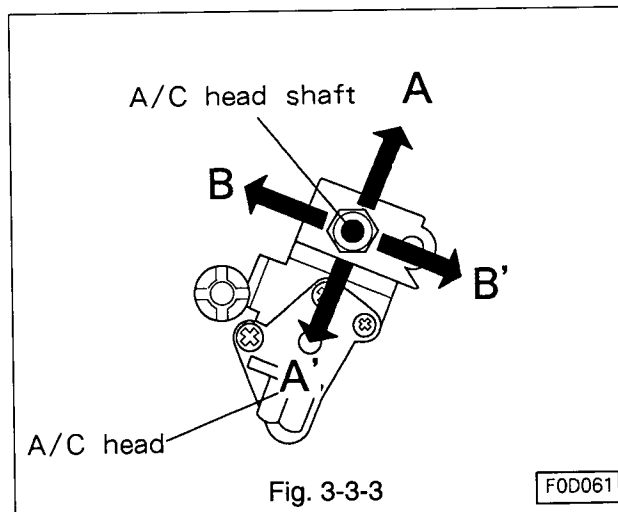

Fig. 3-3-3
- Apply a force lightly to the A/C head shaft in the direction of A and A' of the arrow shown in Fig. 3-3-3, to make certain that the audio output level remains at maximum level and does not change.
- If the level changes, turn the nut A(height adjusting)so that the audio output level is maximum. Apply a force lightly to the A/C head shaft in the direction of B and B' of the arrow shown in Fig. 3-3-3 and adjust so that the sound output level is maximum.